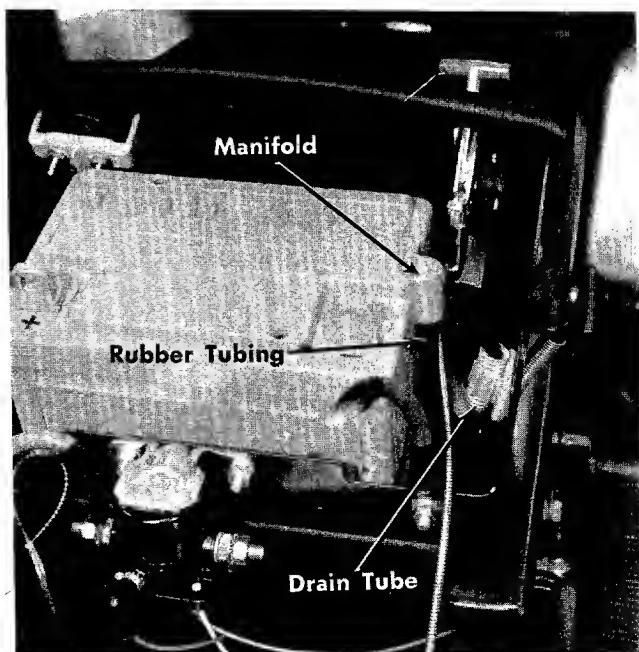

FIGURE 4.
- Place the battery in the battery case with the terminal to the front. See figure 4.
4. Push the rubber tubing into the manifold of the battery and place the other end into the drain tube. See figures 4 and 5.